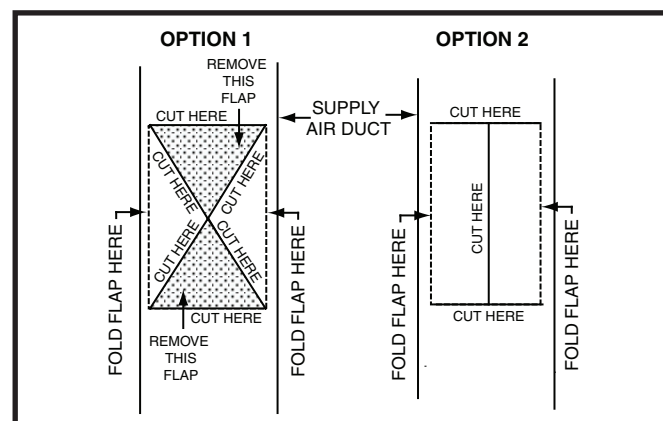

Figure 7. Narrow Air Duct Openings
- Score and cut the top of the supply air duct as indicated in Option 1 or Option 2 (Figure 7). With Option 1 choice, cut out the metal from the shaded area.